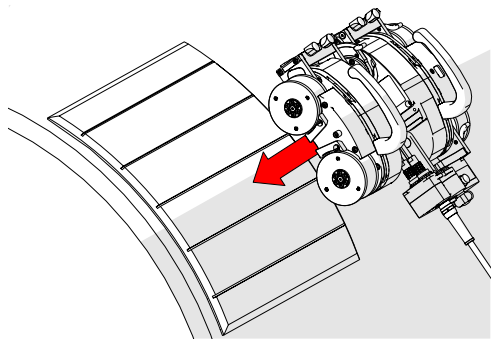

Fig. 304 - Lower crawler to mat
3. Place and hold the crawler on the installation/removal mat (Fig. 304).